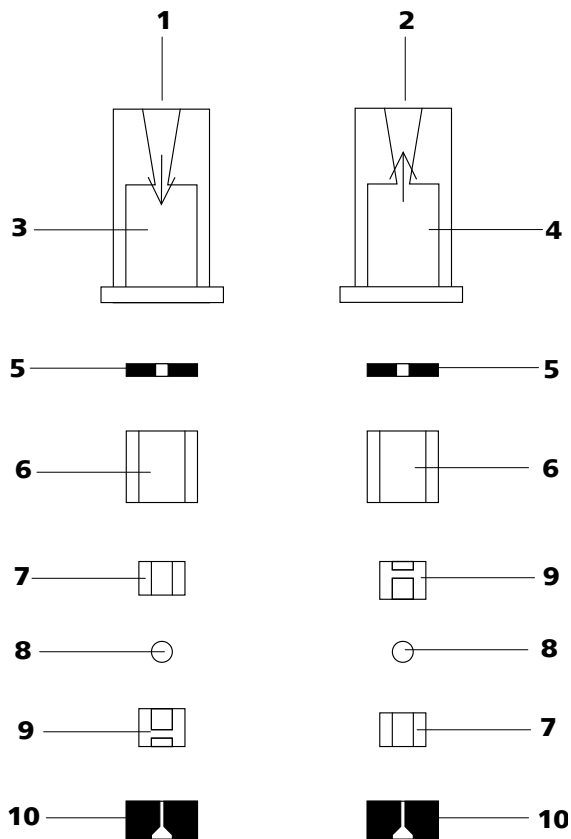

Figure 41 Components of the inlet valve and outlet valve
- The inlet valve and the outlet valve consist of the same, just differently arranged components (see figure 41, page 74).
Reassemble valve components *according to figure 41, page 74*.
- Lay the other valve components above another in the correct sequence (*see figure 41, page 74*).
If this is not the case, the valve has to be dismantled again and be reassembled correctly (*see figure 41, page 74*).